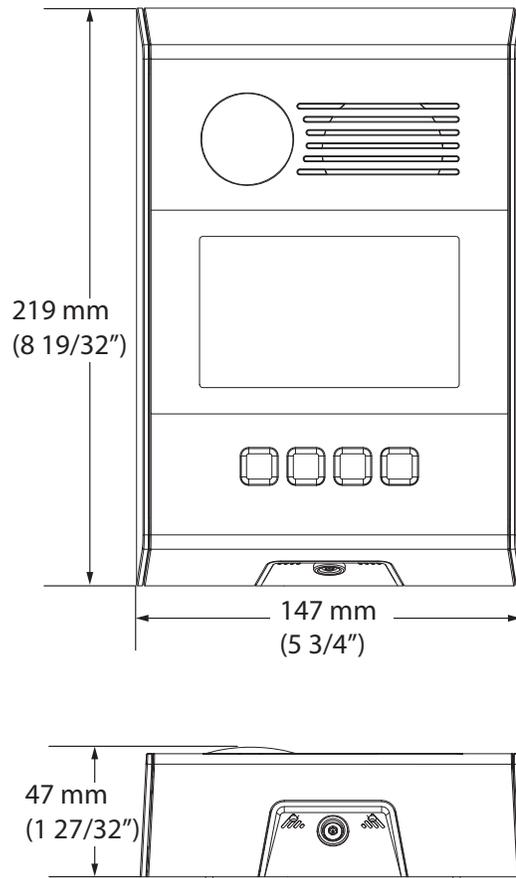

Figure 1. Dimensions of the TX3 Nano
- Figure 1. Dimensions of the TX3 Nano **8**